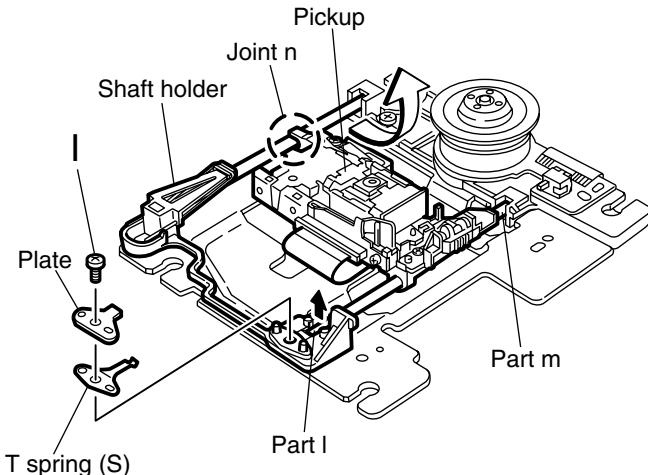

Fig.16
■ Removing the pickup (See Fig.16 and 17)
1. Remove the screw **I** attaching the T spring (S) and the shaft holder. Remove also the plate.